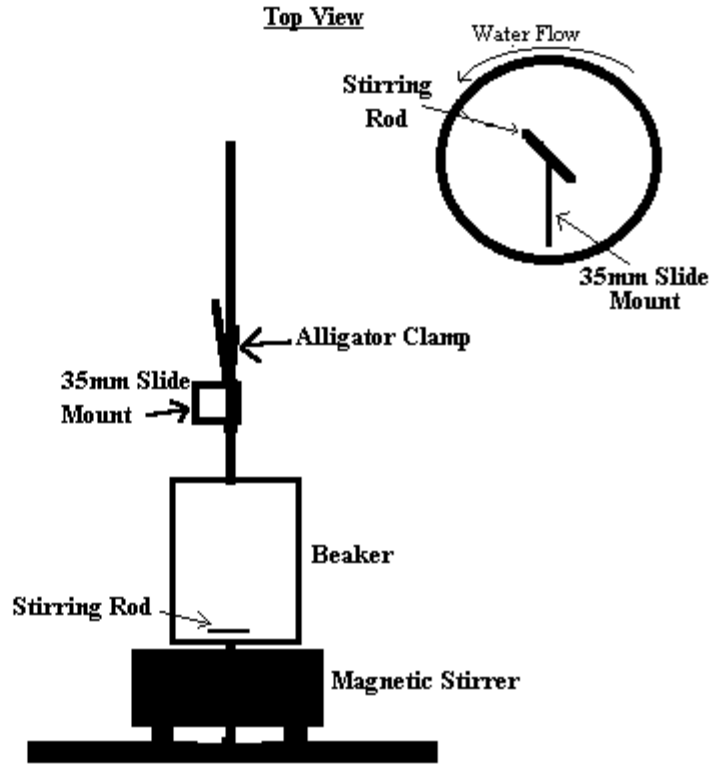

Figure 2
5. Clamp the 35mm slide mount in the alligator jaws of the MonoSol 35mm slide mount holder such that the long end of the slide mount is parallel to the water surface (Figure 2). The depth adjustment of the clamping device should be set so that when dropped, the end of the clamp will be 0.6 cm below the surface of the water. One of the short sides of the slide mount should be next to the side of the beaker with the other positioned directly over the center of the stirring rod such that the film surface is perpendicular to the flow of the water (see attached).